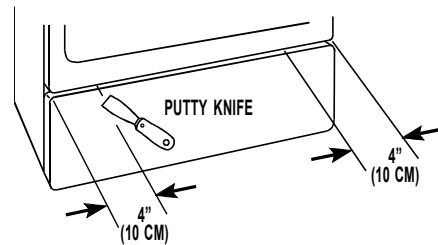

FIGURE 2
- a. If the panel is rectangular, remove lower access panel by releasing two (2) locking clips with a putty knife. The clips are located 4" (10 cm) in from each side of the top of the access panel. See Figure 2.